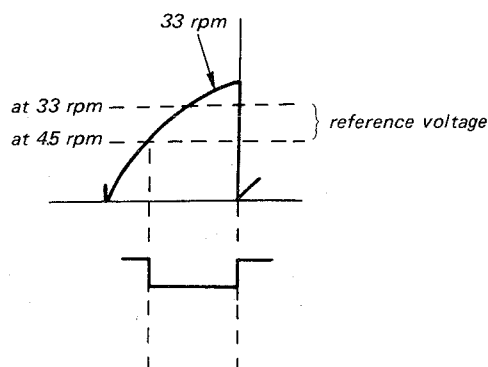

Fig. 1-6
3. When the switch S1 is changed to the speed 45 rpm from 33 rpm, the pulse width on the collector of Q103 becomes wide as illustrated in Fig. 1-6.